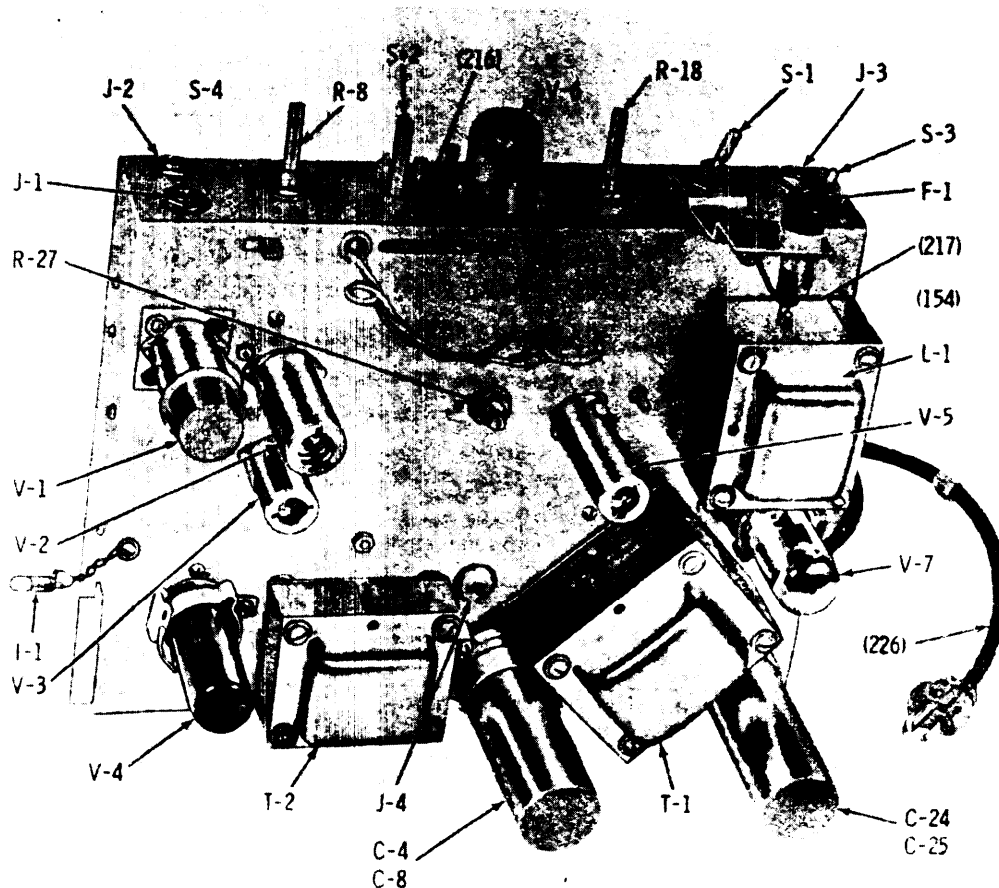

Figure 11. Amplifier Assembly - Front View
5.7 AMPLIFIER ASSEMBLY DESIGN (See figures 11, 12, and 22.)